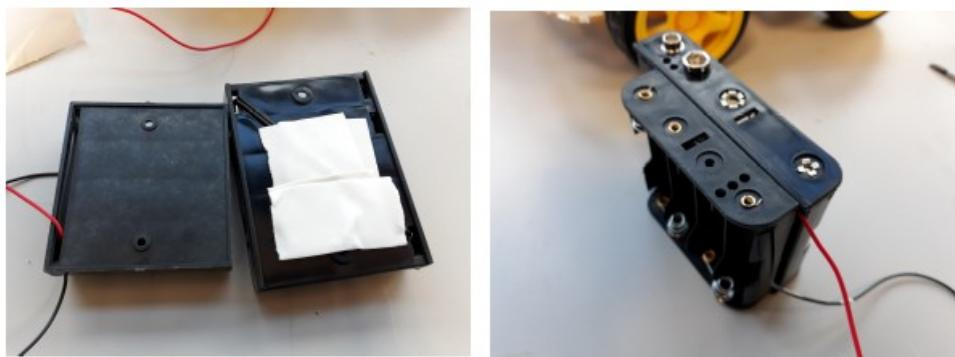

Figure 8: Building the battery pack
Step 7: In your box you will have two power battery packs, one which can take four AA cells and one which can take five AA cells, we are going to join them together, so they can produce about 12V, enough to power the buggies motors. Using a few bits of sticky pad (you will have to layer them to make them high enough to stick), join the two packs together (back to back), as shown in figure 8.